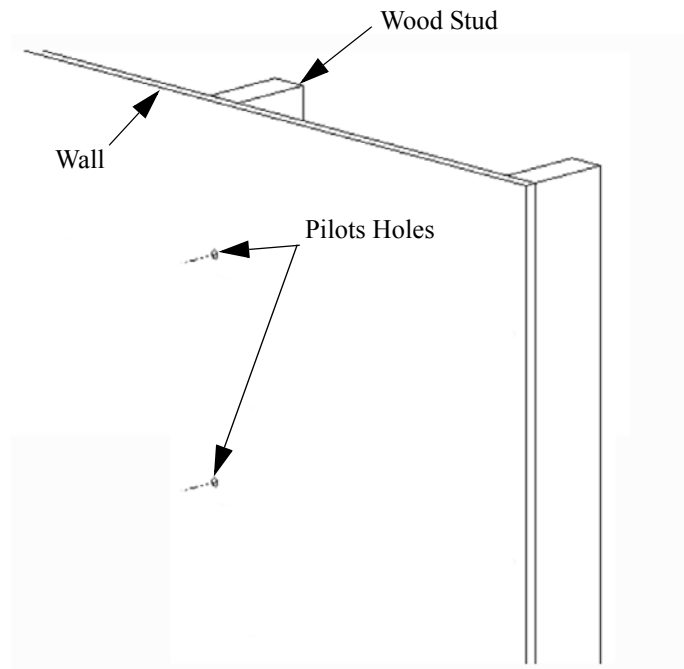

Figure 1. Single Wood Stud
2. Using a stud sensor, locate the wood stud where you will mount the mount (see Figure 1).
7. Drill two pilot holes where the mounting holes were marked for anchoring the mount (refer to Figure 1).